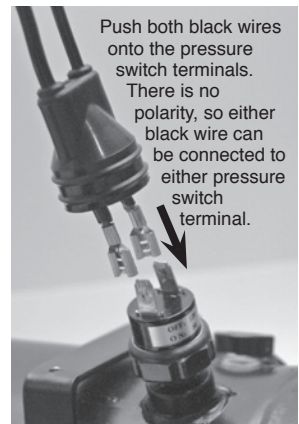

Fig. 8
- IMPORTANT:** It is recommended that both black wires be pushed forward so that the terminals are extending out of the rubber boot exposing the 1/4" female terminals (Fig. 8).
11. Select one of the black wires with the 1/4" female terminal, connect the terminal to the pressure switch. Repeat the procedure for the other black wire. **NOTE:** There is no polarity, so either black wire can be connected to either pressure switch terminal (Fig. 8).